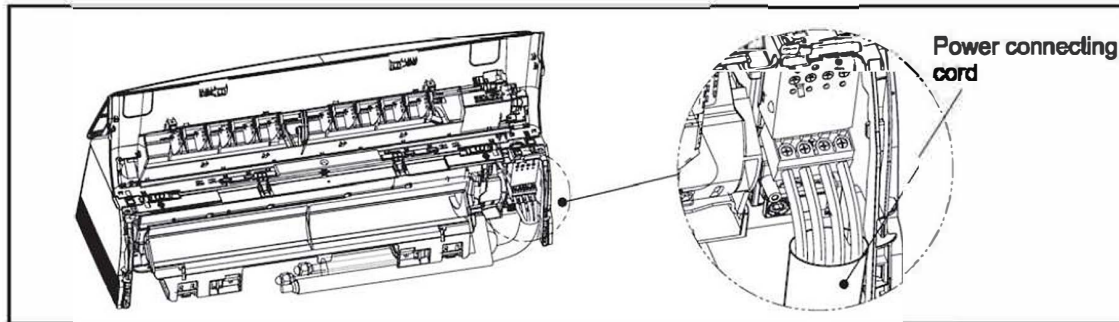

Fig. 422
8) Connect the power connecting cord (Fig.422).